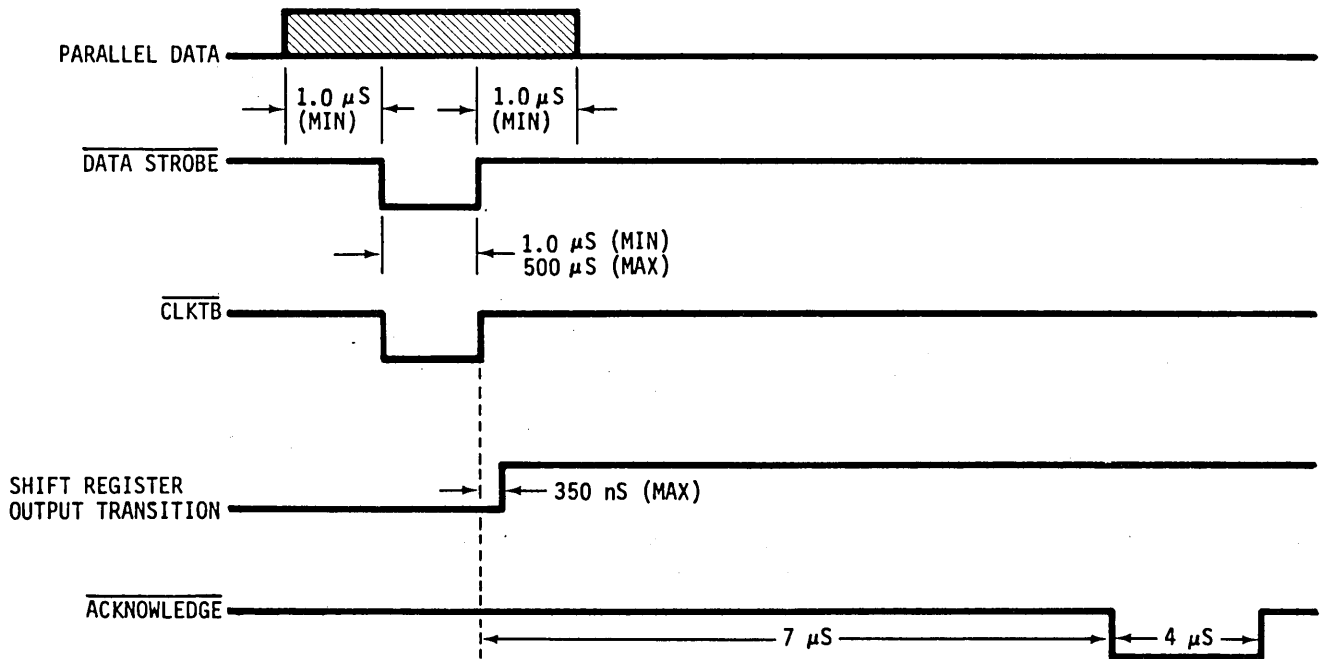

Figure 4-7. INPUT DATA TIMING - NO BUSY CONDITION
### 4.4.1 GENERAL (Figure 4-7/4-8)
The diagram in Figure 4-7 shows the timing involved in transferring data, which does not cause a busy condition.
As shown in the timing diagram of Figure 4-7, the data lines must be stable at least 1.0 usec before and after DATA STROBE, and the DATA STROBE pulse must be at least 1.0 usec wide.
4.4.5 CLOCKING INPUT DATA INTO THE BUFFER (Figure 4-7, 4-12)